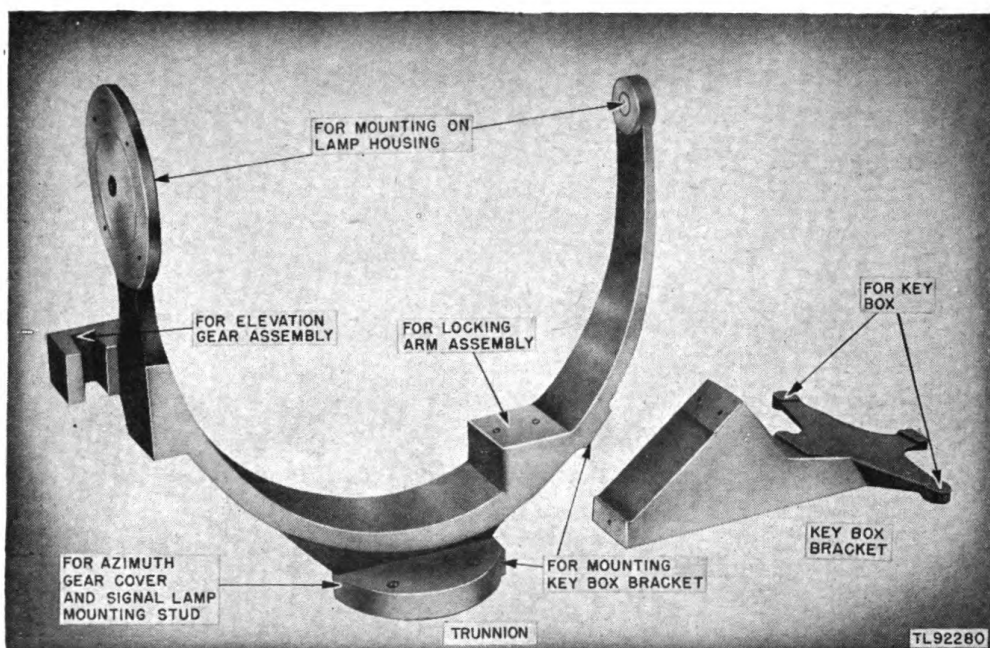

Figure 3. Trunnion and key box bracket.
a. **KEY BOX.** The key box is mounted on a cast-aluminum bracket attached to the trunnion on the lamp housing (fig. 3). Two screws, one on each end of the bracket, attach the key box to the bracket. The key box contains telegraph Key J-47 and its complete circuit. Inside the key-box base are located Capacitor CA-171 and the terminal strip for the lamp and power cords.